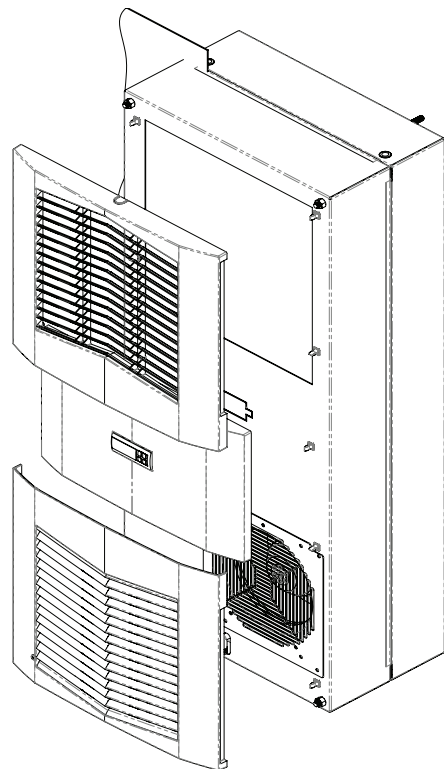

Figure 6
14. Push the louvered grille and, where applicable, the center panel, onto the front panel. See Figure 6 on page 12.